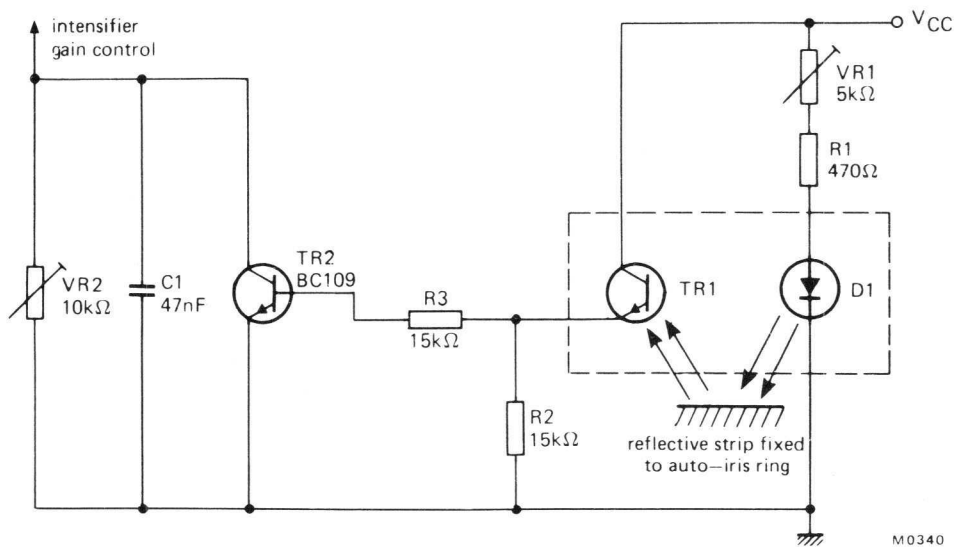
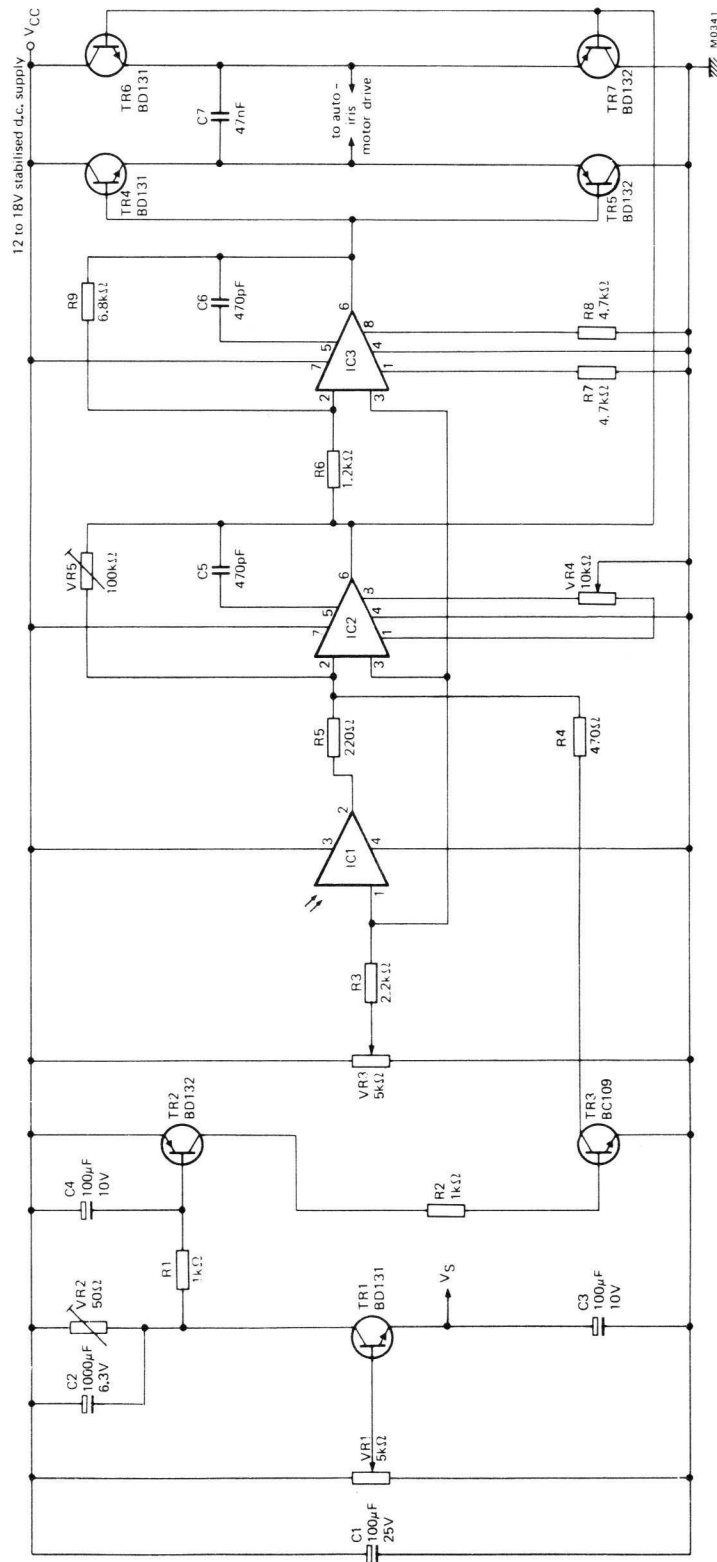

Fig.6 Intensifier gain control circuit.
Fig.7 Intensifier supply and auto-iris motor drive circuit.
The intensifier gain control circuit is shown in Fig.6, and the remaining functions of the control circuit are provided by the circuit shown in Fig.7.
type add-on unit this is done electronically via the circuit shown in Fig.6, where the level of infrared radiation on the base of phototransistor TR1 determines the intensifier gain. This radiation is emitted by D1 (encapsulated with TR1), and reflected by a metallic strip before falling on the base of TR1. The metallic strip is attached to the auto-iris ring, and the length of strip exposed increases as the iris is opened. This increases the radiation on TR1, thereby raising the gain of the intensifier. As an alternative to sensing the position of the auto-iris electronically, the auto-iris ring could be connected mechanically to the slider of a potentiometer placed across the gain control input and the negative rail.
The photodiode with integral op-amp IC1 (Fig.7), and op-amps IC2 and IC3, form a high-gain amplifier to drive the auto-iris lens motor. A rising electrical signal (luminance of image intensifier output screen increasing) at the inverting input of IC1 causes the iris to close, while a falling electrical signal causes it to open. The level of screen luminance which the circuit seeks to maintain is set by VR4, and the gain of the amplifier is set by VR5.
The supply current drawn by the intensifier flows through VR2 (Fig.7). If this supply current becomes excessive, then the voltage drop across VR2 will cause TR2 and TR3 to conduct. This will pull the inverting input of IC2 to ground, and the auto-iris will then close.
The intensifier supply (V_s in Fig.7) is taken from the stabilised supply rail via the potential divider VR1 and the emitter-follower TR1.
- 1) Set VR2 (Fig.7) to minimum resistance.
- 2) Set VR1 (Fig.7) to give an intensifier supply voltage V_s of 3 V.
- 3) Set VR3 (Fig.7) to give a slider voltage of half the supply voltage.
- 4) Under daylight conditions, adjust VR4 (Fig.7) to give a luminance for the image intensifier output screen of half the saturation value.
- 5) Adjust VR5 (Fig.7) for maximum resistance, subject to the amplifier remaining stable.
- 6) Under starlight conditions (auto-iris fully open), adjust VR1 (Fig.6) from maximum resistance until the intensifier gain is at a maximum.
- 7) Under daylight conditions, adjust VR2 (Fig.6) to give an intensifier input illuminance of no more than 5 mlux.
- 8) Under blackout conditions, place a 390 Ω resistor across the intensifier supply and adjust VR2 (Fig.7) until the auto-iris starts to close, then remove the 390 Ω resistor.
Intensifier gain control circuit (Fig.6)
Intensifier supply and auto-iris motor drive circuit (Fig.7)